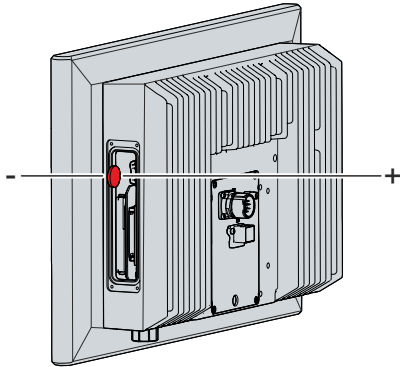

Fig. 42: Replacing the battery
1. Pull the hard disk out of the PC (see Fig. 42).